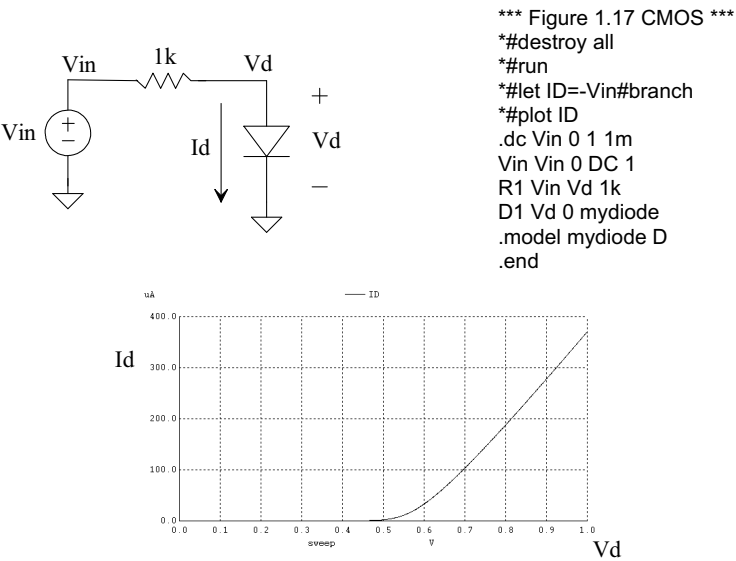

Figure 1.17 Plotting the current-voltage curve for a diode.
One of the simulations that is commonly performed using a DC analysis is plotting the current-voltage (IV) curves for an active device (e.g., diode or transistor). Examine the simulation seen in Fig. 1.17. The diode is named D1. (Diodes must have names that start with a D.) The diode's anode is connected to node Vd, while its cathode is connected to